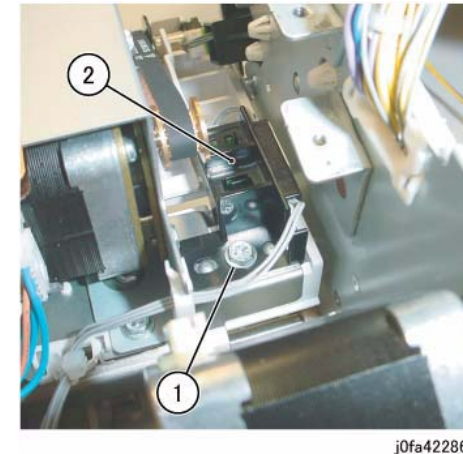

Figure 3 Removing the Front Tamper Home Sensor Assembly
9. Remove the Front Tamper Home Sensor Assembly (Figure 3):